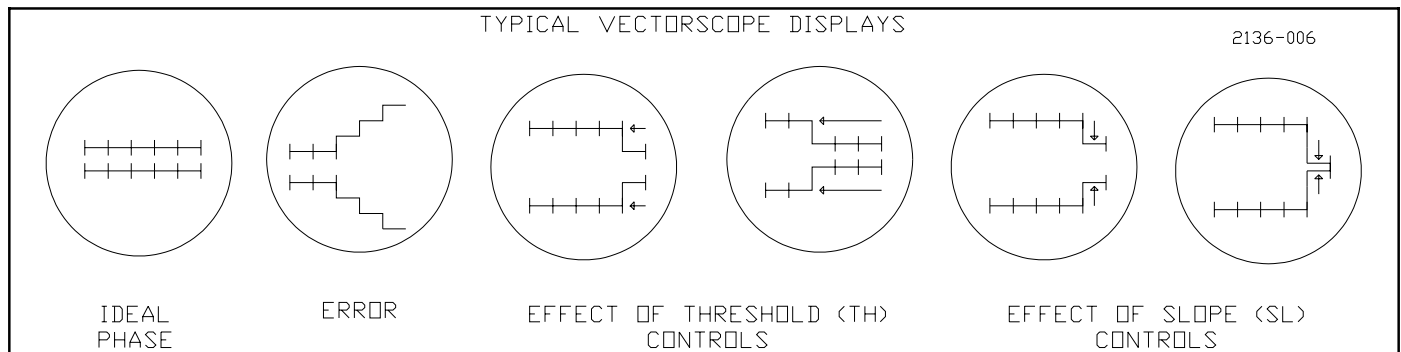

Figure 5-2. Diff. Phase, Effects of TH and SL Controls
- Adjust the modulator video level control for 700 mV at peak of sync and mod bias control for 88mV p-p at white for CCIR - M (12.5% ratio) or 70mVp-p at white for CCIR - B (10% ratio). See Figure 5-2. The two controls interact so it will be necessary to go back and forth until both conditions are achieved at the same time.